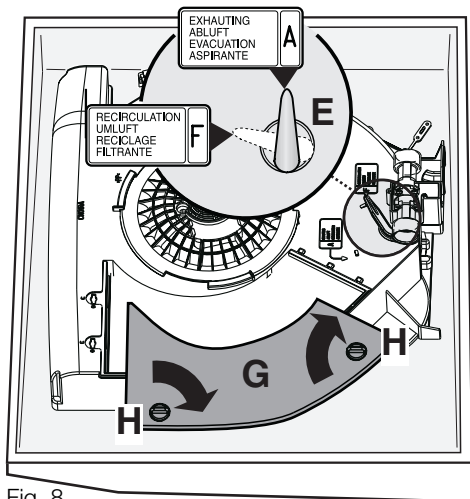

Fig. 8
- ❑ Remover a tampa **G** girando as manoplas **H** de 90°, fig. 8.